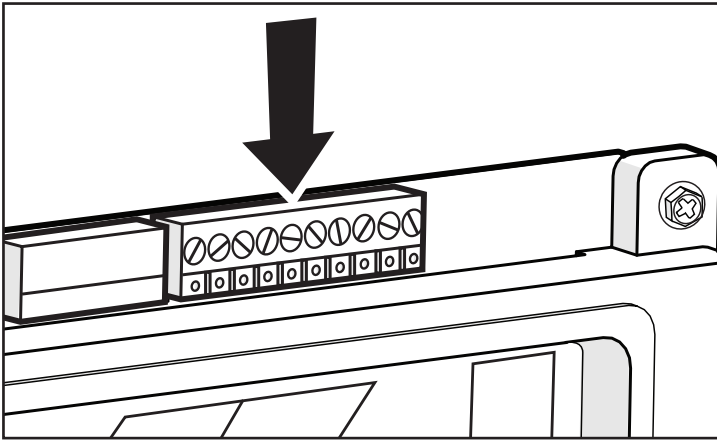

Figure 15. Connect Sensors to Green Terminal Bar
1. Reconnect the water, air, and optional solar sensors to the green terminal bar on the RS board, see Figure 15.